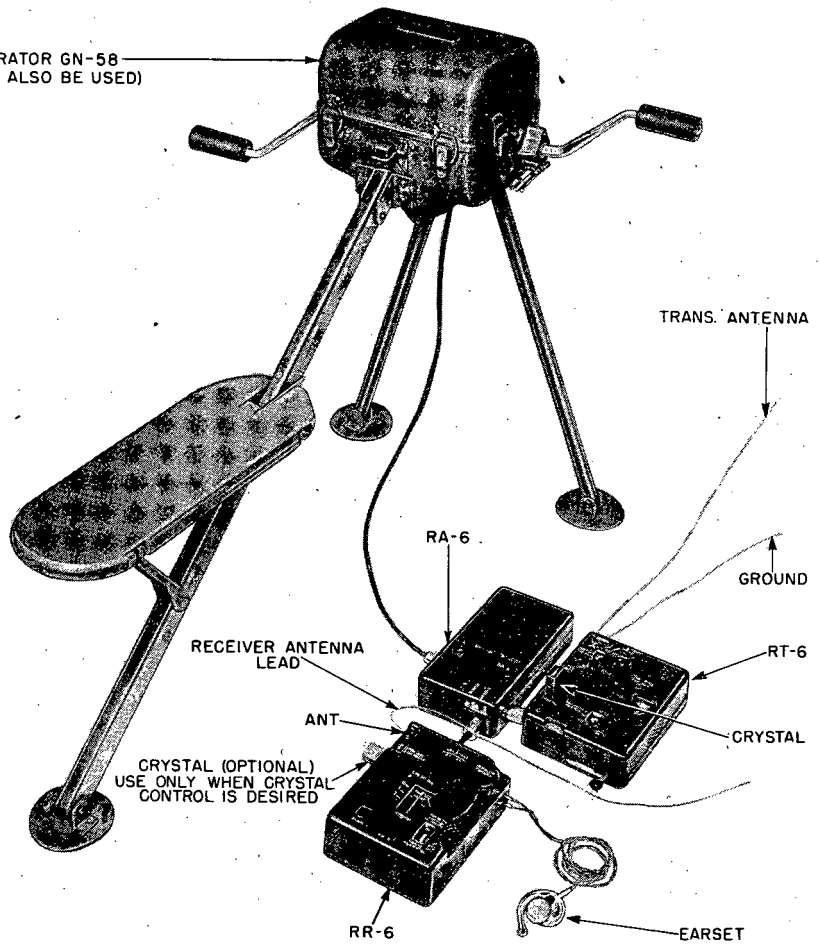

Figure 6. Radio Station RS-6 hand generator operation hook-up
b. Connect equipment as shown in Figure 6. (Receiver crystal shown is optional). Either Hand Generator GN-58 or SSP-11 may be used. NOTE: Power Supply RP-6 is not used in this method of operation. The transmitter and receiver are now ready for operation.